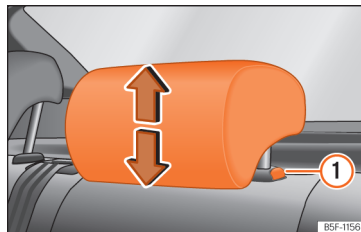

Fig.120 Rear headrest: headrest adjustment.
button »» Fig. 120 ① to lower them »» ⚠ in Introduction on page 123.